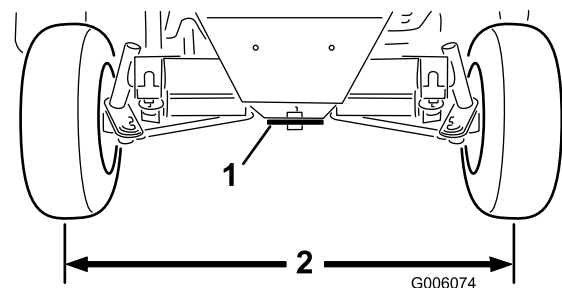

Figure 58
3. Adjust both tie rods until center-to-center distance at front and back of rear wheels is the same (Figure 58).